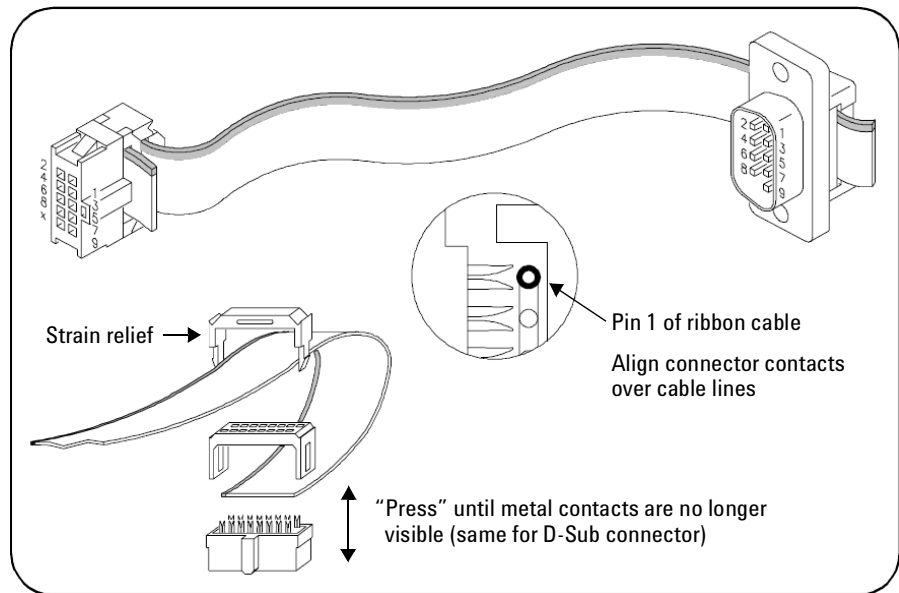

Figure B-2 Y1157A connector orientation and ribbon cable routing
- 2 Position the D-Sub connector and the ribbon cable connector as shown in Figure B-2. Route the cable **through** the connectors, noting the location of cable pin 1. By convention, pin 1 is indicated in red (the dark line in the drawing).
- 3 Move the connectors to the ends of the cable, allowing for some overlap on the D-Sub connector end and strain relief on the ribbon cable connector end. **Note the orientation of the connectors and cable in Figure B-2.**
- 4 Align the metal contacts of the ribbon connector over cable pin 1 (Figure B-2) and the other pins, press the ribbon cable connector onto the cable using a vise or clamp to press the contacts **evenly** through the cable insulation. Continue to press the connector until the metal contacts are no longer visible.
- 5 Fasten the strain relief clamp over the cable and into the ribbon cable connector as shown in Figure B-2. Remove any excess cable after the clamp is in place.